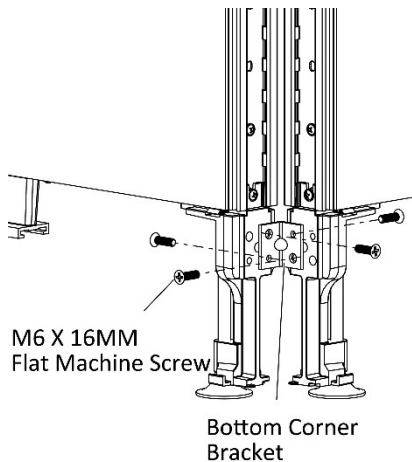

Figure 3
6. Securely fasten bottom corner bracket to panel legs with four M6 X 16MM Flat Machine Screws, (Figure 3).